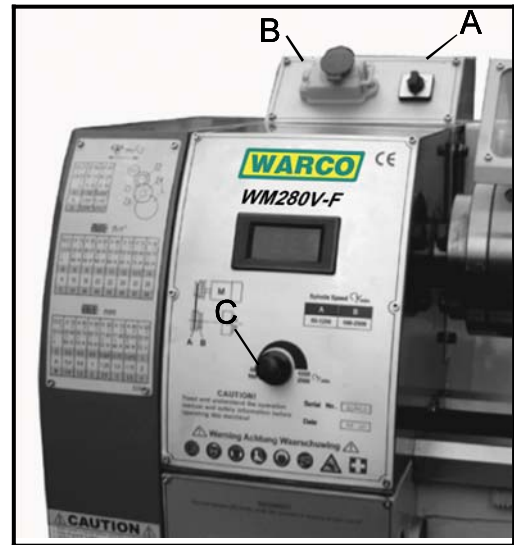

Fig. 11
1. Change-over Switch (A, Fig. 11)
2. Emergency Button ON/OFF Switch (B, Fig. 11)
3. Variable Speed Control Switch (C, Fig. 11)